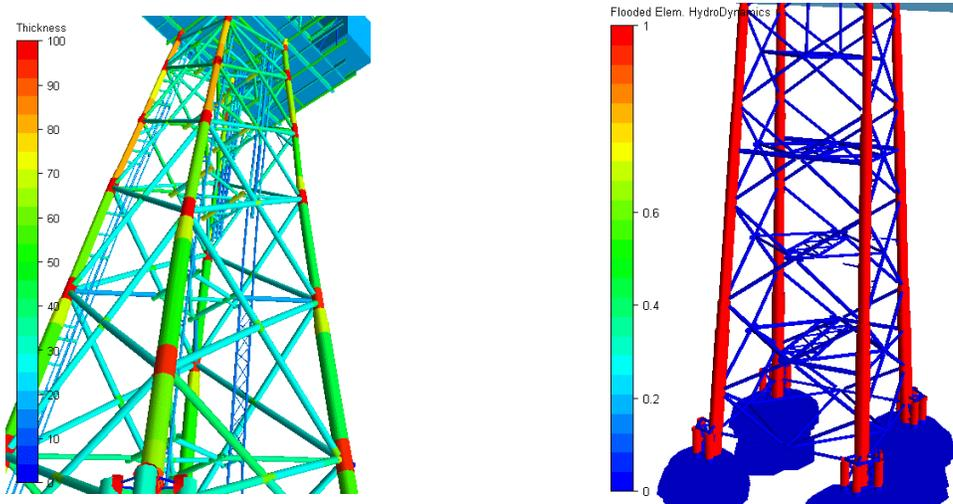

Figure 3.4-2 Visualizing the Wall thickness (left) and Flooded Members (right)
- ❑ Wall thickness (see Figure 3.4-2, left)
- ❑ Flooded Elements (Flooded members are red, see Figure 3.4-2, right)